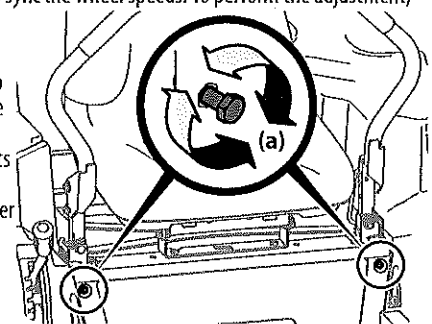

Figure 41
2. Locate the lapbar drive control lever stop adjustment bolts (a) on the front of the seat frame. See Figure 41.